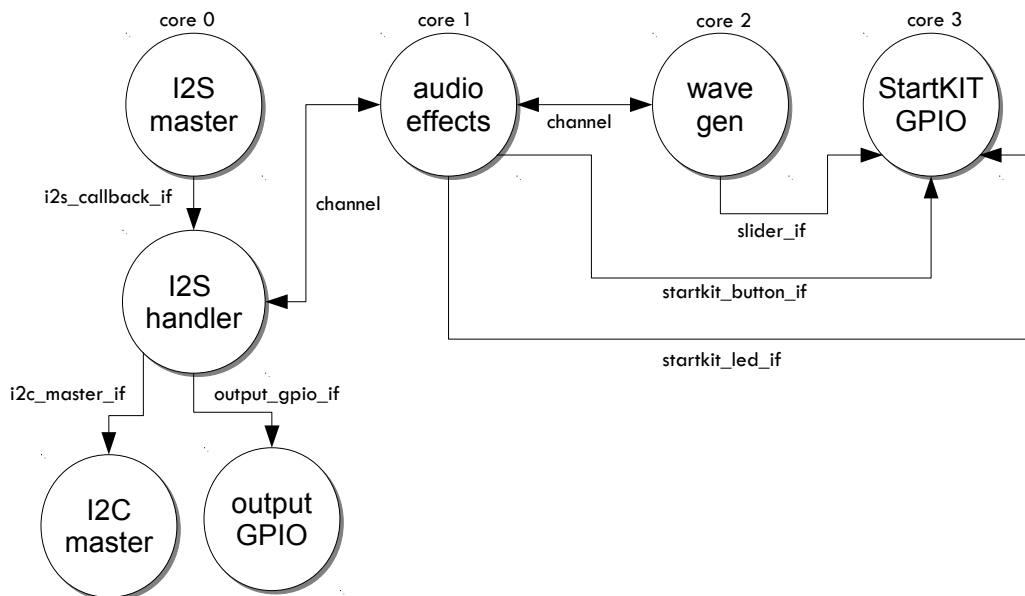

Figure 2: Task diagram of the startKIT audio effects demo
- The declarations before the `par` create the connections between the tasks (see Figure 2). Tasks are connected by passing one of these declared variables to both tasks. Some of the connections are arrays which can connect one task to many others.